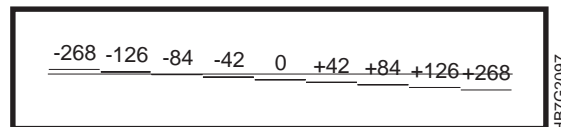

Figure 156. Horizontal Control
- 1 Find the front-to-back registration area on the X-side of the page. The horizontal control, as shown in Figure 156, is on top of the word “IBM”.